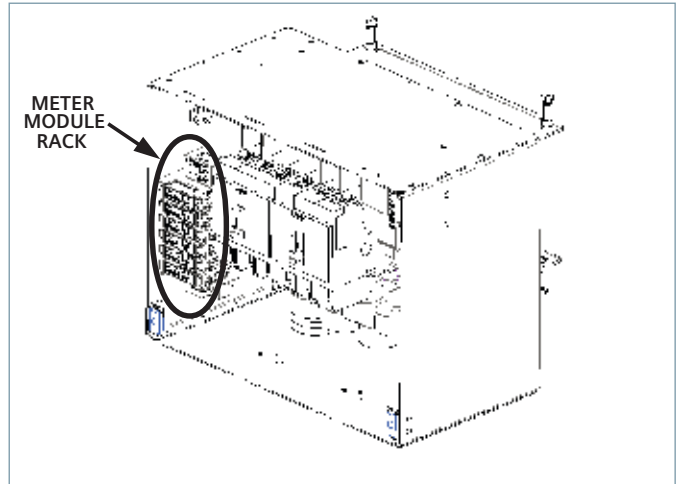

Figure 11: Internal Location of Meter Module Rack In Metered Bus Plug
**Note:** Meter racks are internal to the bus plug. However, a view port with rotary switch access hole allows the user to ensure proper phasing of the meter modules and verify that they are receiving power. The small hole over the rotary switch allows for the rack to be addressed without opening the bus plug cover. The location of the six meter rack is shown in Figure 11. It may be necessary to remove the front cover of the plug to access and adjust the rotary switch. Loosen the two thumb screws on the bus plug cover to access the rack.